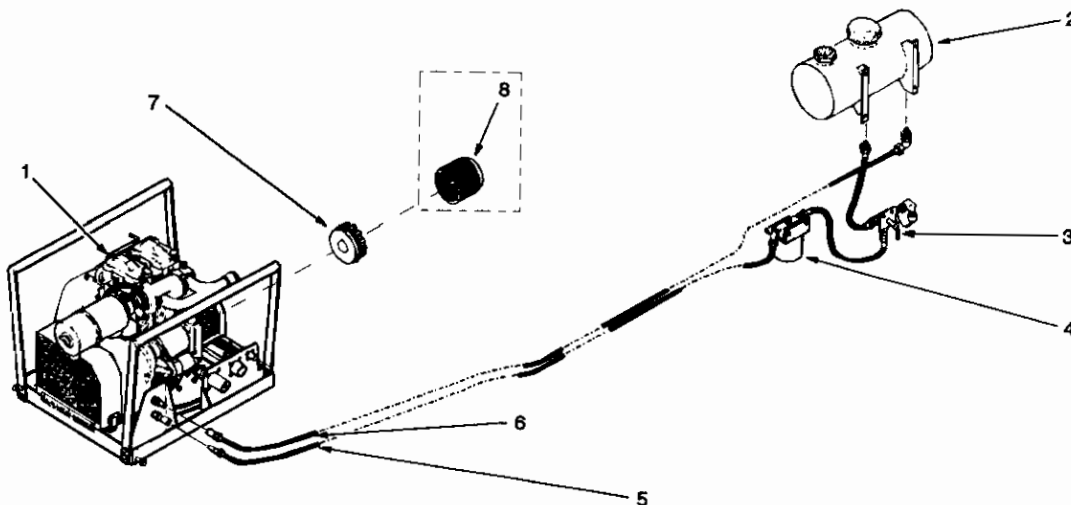

Figure 1-18. AAFARS Power Subsystem
The diesel engine (1), fuel tank (2), fuel selector valve (3), fuel filter (4), and fuel supply line (5) and return line (6) comprise the diesel power subsystem, figure 1-18. A splined adapter flexible coupling (7) on the engine output shaft mates with a flexible coupling (8) attached to the input shaft of the fuel transfer pump to provide system power.